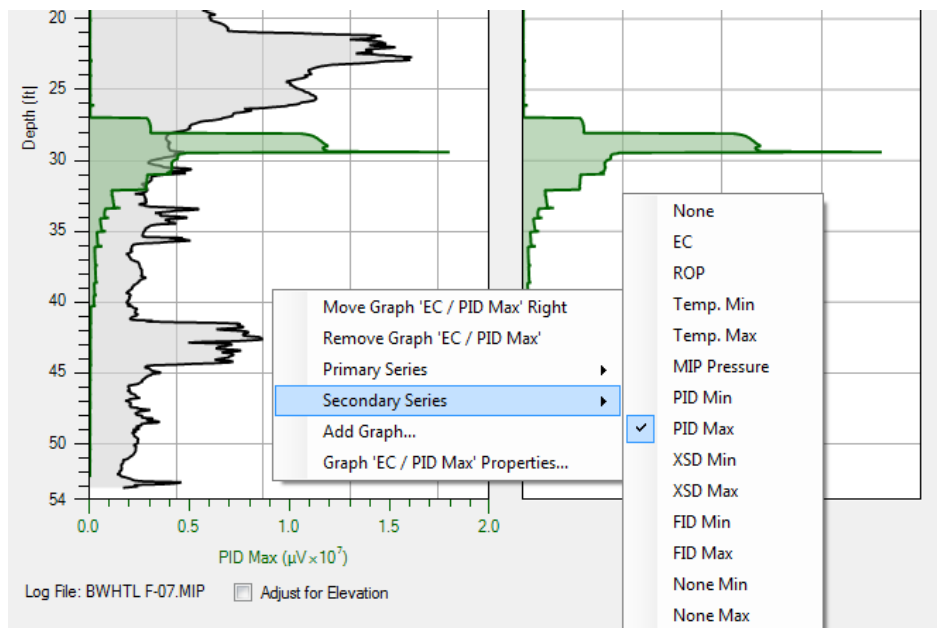

Figure 7: Selecting Primary or Secondary Series in Single Log Display
2. Select *Primary Series* or *Secondary Series* (Figure 7).